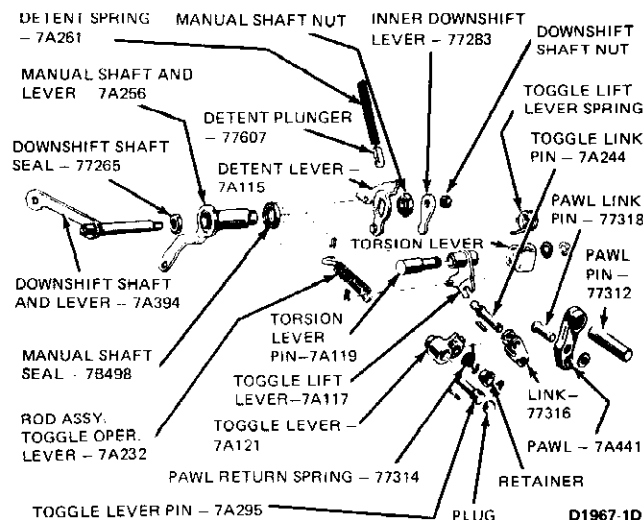

FIG. 32 Transmission Case Control Linkage
1. Remove the inner downshift lever shaft nut (Fig. 32). Then remove the inner downshift lever.
3. Assemble the link to the pawl with the pawl link pin, washer, and pawl return spring. Assemble the toggle lever to the link with the toggle link pin. Position the pawl return spring over the toggle link pin, and secure in place with the washer and the small retainer clip (Fig. 32). Install the assembly in the transmission case by installing the pawl pin and the toggle lever pin. Press in the retaining plug tightly against the toggle lever pin. Install the torsion lever assembly. Position the spring on the torsion lever with a screwdriver. Make certain that the short side of toggle lift lever does not extend beyond the largest diameter of the ball on the toggle link pin (Fig. 32). Tap the toggle lift lever in or out as necessary to center the toggle lift lever on the ball.